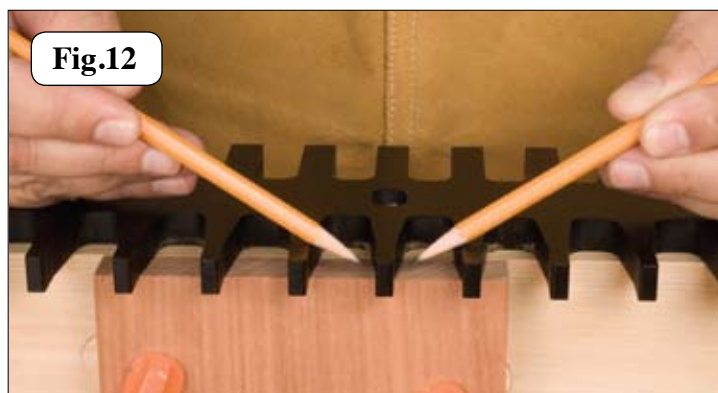

Fig.12
D. Place the mounted dovetail jig (pin side) on the end of stock. Position the jig, so that the two edges of one of the pins line up with the two scribed lines. Note: the angles that you marked with your scribing tool for your dovetail opening will match both side edges of one pin on your dovetail jig. See **Fig.12**. Make sure dovetail jig rest's flat on the pin stock and secure in place with F-clamps or C-clamps. You will be removing the stock that is exposed between the pin openings of the dovetail jig using the straight router bit.